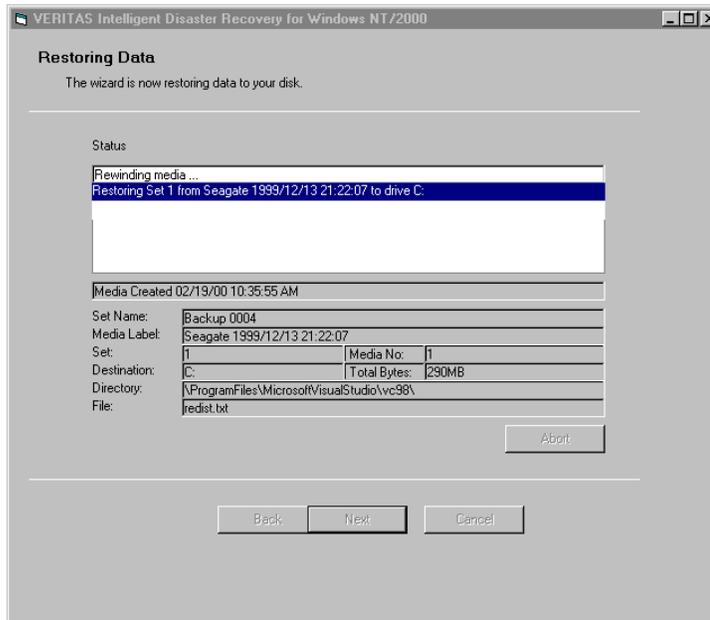

Figure 20: Restoring Data screen
10. Figure 20 shows the Restoring Data screen, which provides detailed information about the tape drive during the data restore process.